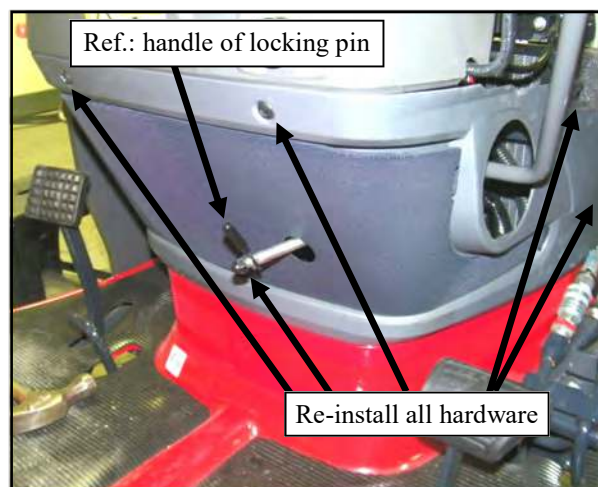

Fig. 1.9 (Plastic Air Intake Cover)
1.9 Per Fig. 1.9, re-install the plastic air intake cover and all the associated O.E.M. hardware.